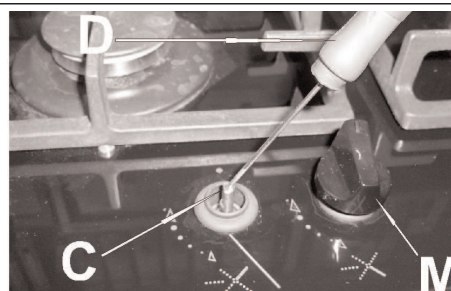

FIG. 10
- Remove knob “M” (fig. 10) of the tap, which is simply pressed on to its rod.
- Insert a small screwdriver “D” into hole “C” (fig. 10) and turn the throttle screw to the right or left until the burner flame has been adequately regulated to the “Reduced rate” position.